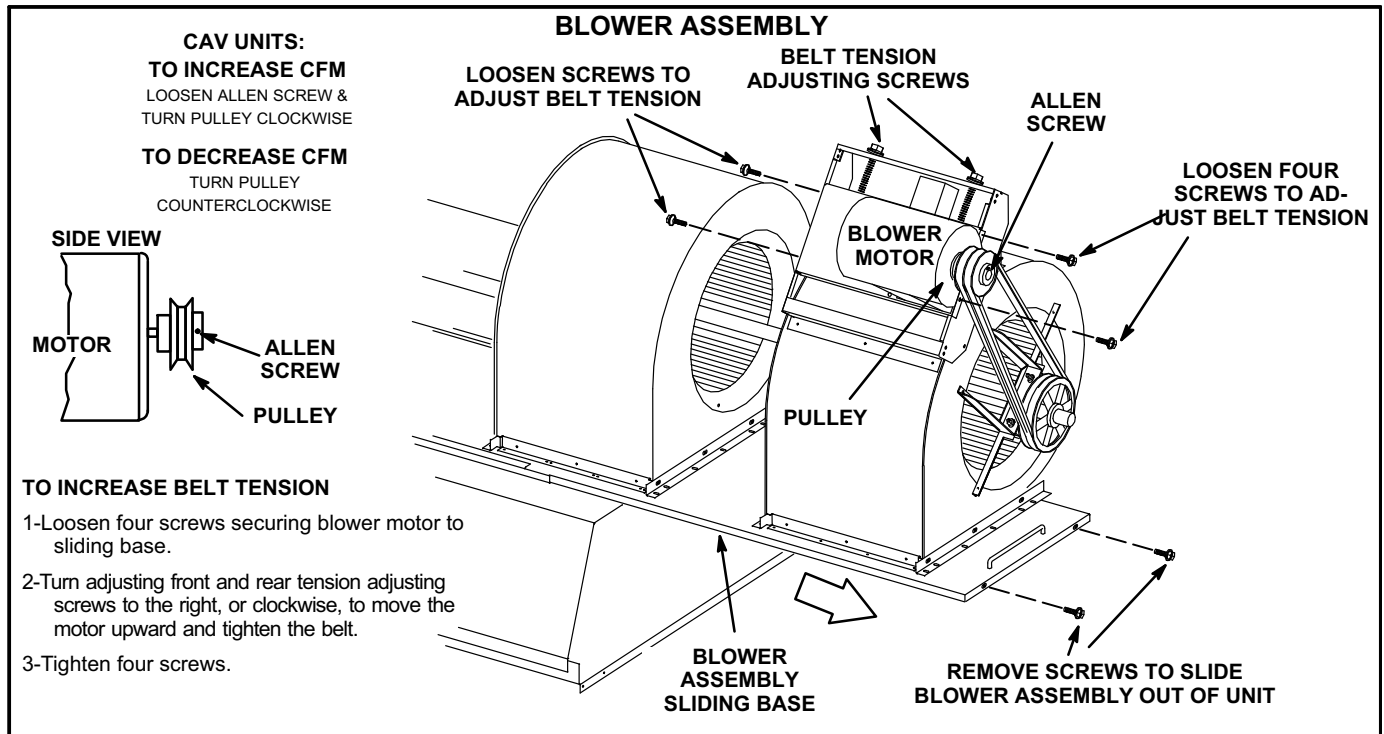

FIGURE 18
- 2- Remove screws on either side of blower assembly sliding base. See figure 18.
4- The blower RPM can be adjusted at the motor pulley. Loosen Allen screw and turn adjustable pulley clockwise to increase CFM. Turn counterclockwise to decrease CFM. See figure 18. Do not exceed minimum and maximum number of pulley turns as shown in table 3.
- 1- Loosen four screws securing blower motor to sliding base. See figure 18.
- 5- If tensioner pulley is past 7 o'clock when secured, The distance between the motor and blower pulleys need to be increased. Refer to the steps in figure 18 to increase belt tension.